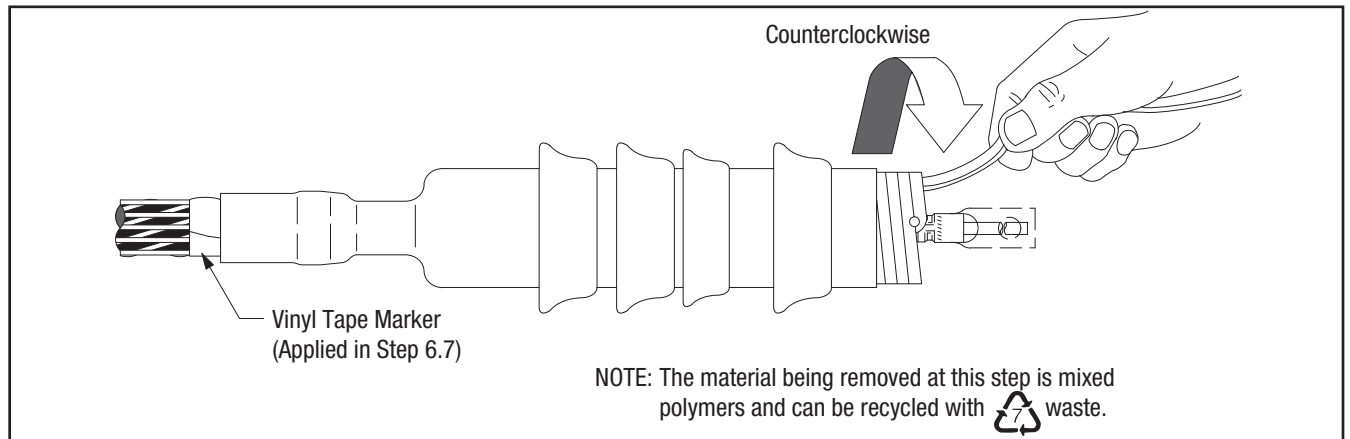

Figure 10
- 9.1 Slide the termination body onto the cable and remove core. Make sure the termination body (not the core) is butted up to the edge of the vinyl tape marker previously applied (Figure 10). Pull the core while unwinding, counterclockwise, starting with the loose end (Figure 10). Be sure to alternate the pulling and unwinding actions (pull-unwind-pull-unwind-etc.) to help prevent the core material from binding up as the core is being removed (Figure 10).